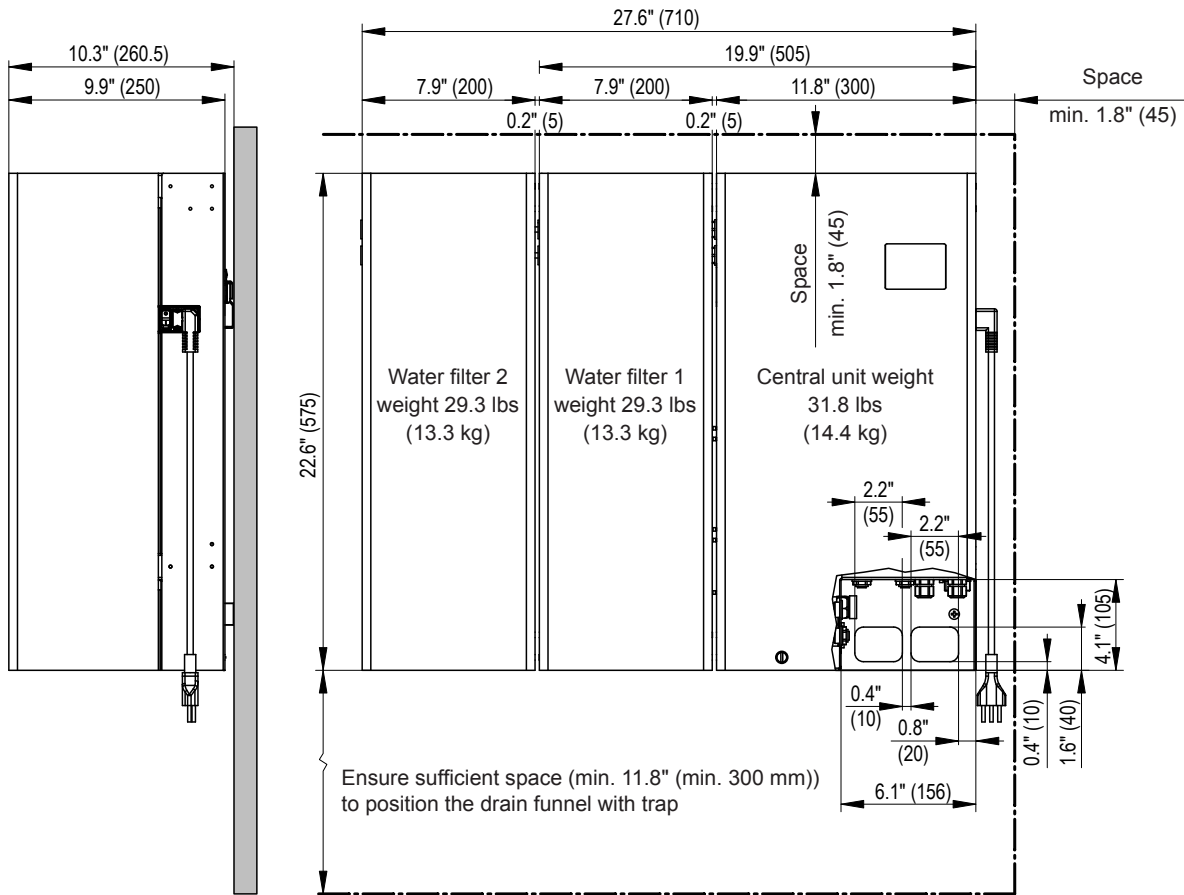

Fig. 10: Central unit and water filter dimensions (dimensions in inch (mm))
- There must be a sufficiently large free wall space to install the central unit and the water filter(s) (see Fig. 10).
Important: The wall that the central unit and the water filter(s) will be installed on must have a sufficient load-bearing capacity (see weight information in Fig. 10) and be suitable for the attachment.